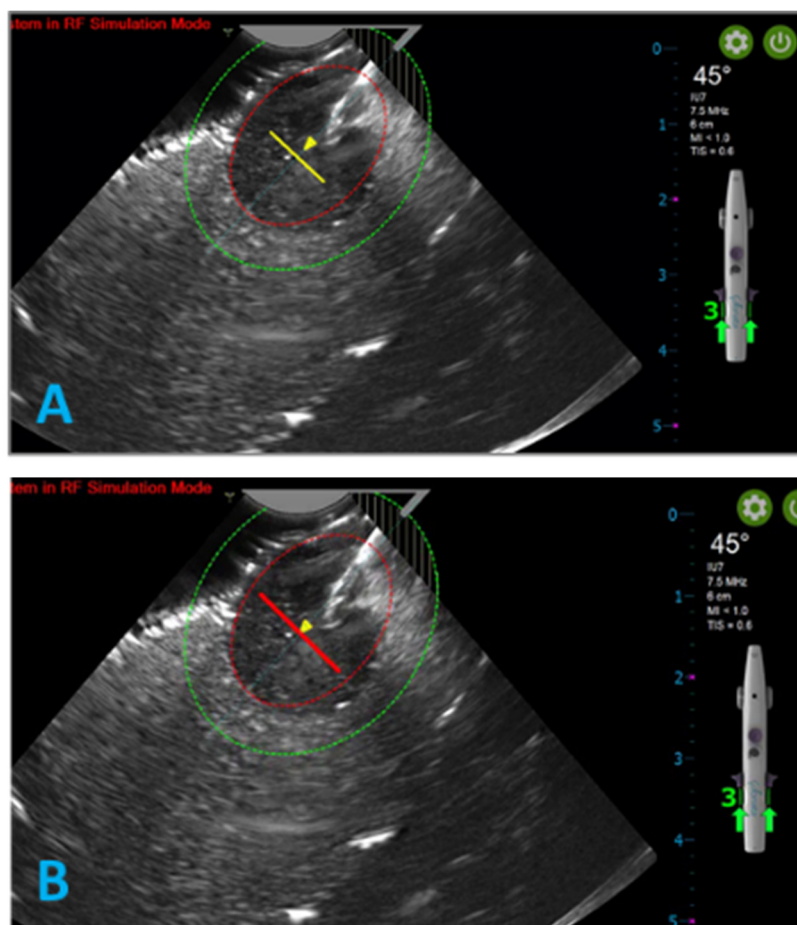

Figure 4-16.A. Advance Introducer Tip to Introducer Plan Line. B. Introducer Tip at Introducer Plan line. Plan line is red.
While observing the live ultrasound image, depress the Introducer Sliders and advance the Introducer in a controlled fashion to the yellow Introducer Plan Line into the fibroid, see Figure 4-16. Always hold the Treatment Device by the handle, not by the Cables.
- The Introducer Plan Line will change from yellow to red and an audible tone will sound, see Figure 4-16.